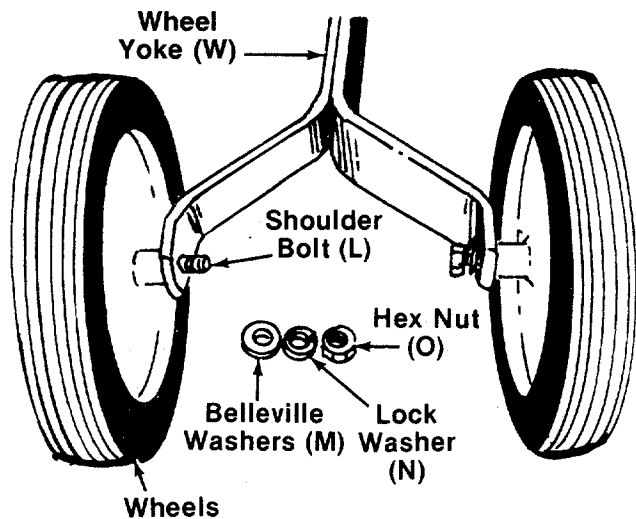

FIGURE 5.
5. Assemble wheels (AC) to wheel yoke (W) with shoulder bolts (L), belleville washers (M) (cupped side of washer is against the wheel yoke), lock washers (N) and hex nuts (O) as shown in figure 5. A 3/4" wrench and an adjustable wrench is required.